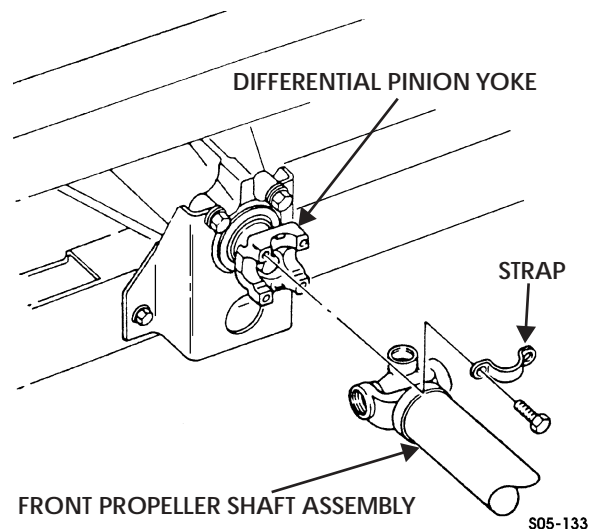

Figure 5-193: Front Propeller Shaft to Axle
4. Connect front propeller shaft assembly to differential pinion yoke with two bearing straps and four capscrews. Tighten capscrews to 13-18 lb-ft (18-24 N•m) (Figure 5-193).